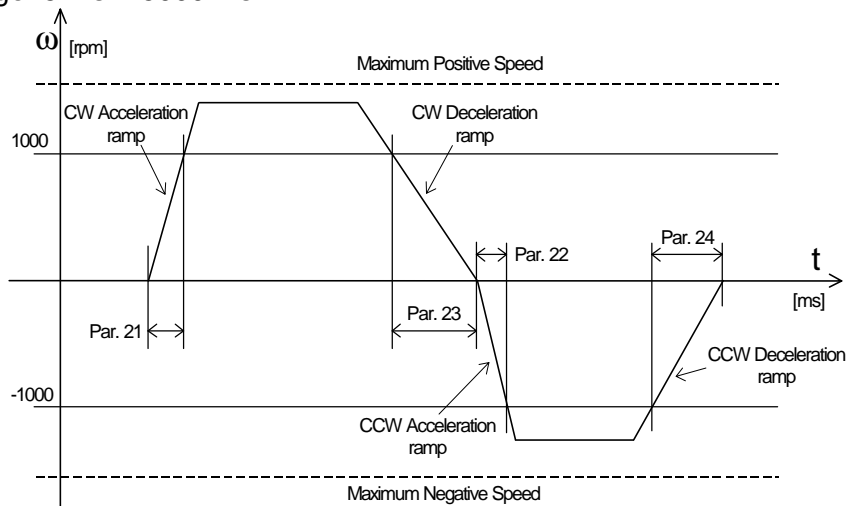

Fig. 3-6: Acceleration/deceleration ramps applied to the reference speed
- it represents the maximum acceleration set for rotation in positive direction (clockwise seen from the shaft end side), see Fig. 3-6. The limitation is applied to the reference speed and is enabled both in Speed Mode, when the speed reference is explicit, and in Positioning Mode or Synchronizing Mode, when the speed reference comes from an external loop.
- it represents the maximum acceleration set for rotation in negative direction (counterclockwise seen from the shaft end side), see Fig. 3-6. The limitation is applied to the reference speed and is enabled both in Speed Mode, when the speed reference is explicit, and in Positioning Mode or Synchronizing Mode, when the speed reference comes from an external loop.
- it represents the maximum deceleration set for rotation in positive direction (clockwise seen from the shaft end side), see Fig. 3-6. The limitation is applied to the reference speed and is enabled both in Speed Mode, when the speed reference is explicit, and in
- it represents the maximum deceleration set for rotation in negative direction (counterclockwise seen from the shaft end side), see Fig. 3-6. The limitation is applied to the reference speed and is enabled both in Speed Mode, when the speed reference is explicit, and in Positioning Mode or Synchronizing Mode, when the speed reference comes from an external loop.